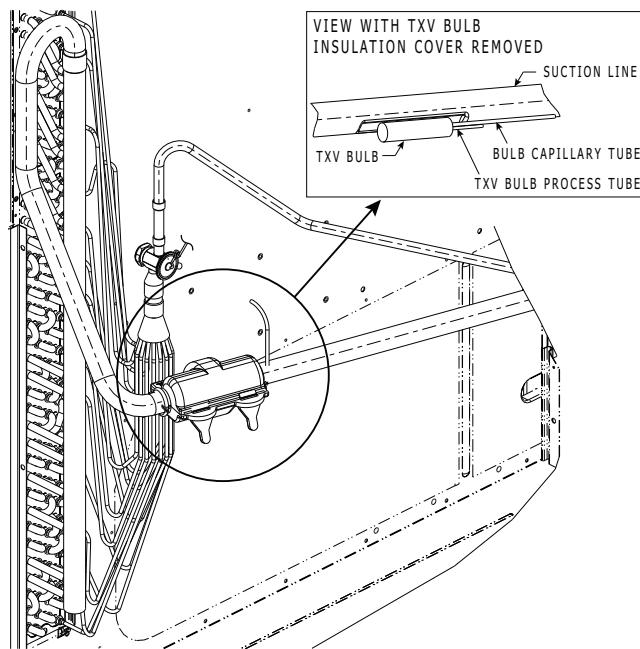

Fig. 26 — TXV Valve and Sensing Bulb Location
8. Attach TXV bulb in the same location where the original (in the sensing bulb indent) was when it was removed, using the supplied bulb clamps. (See Fig. 26.)